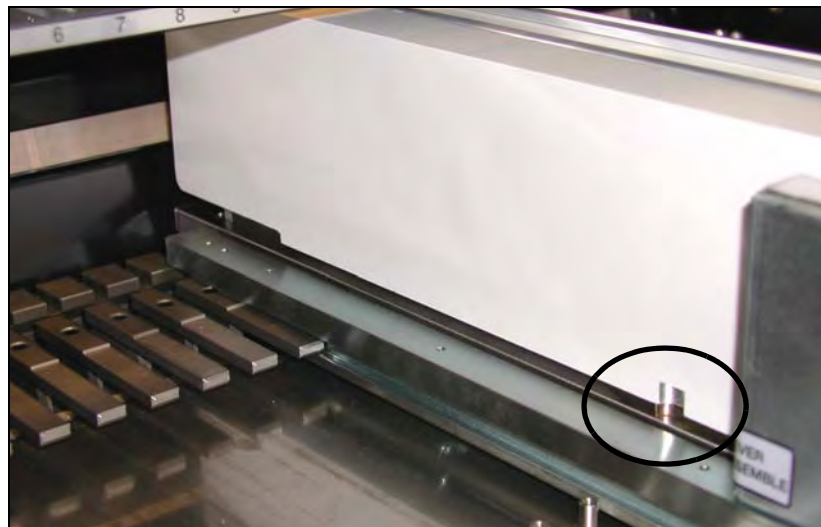

Figure 2-18—The dowel on the Adapter (circled) mates with Roadrunner.
2. Lower RoadRunner so that the Feeder Bank Adapter dowel mates with the guide bushing on the RoadRunner conveyor. See Figure 2-18.